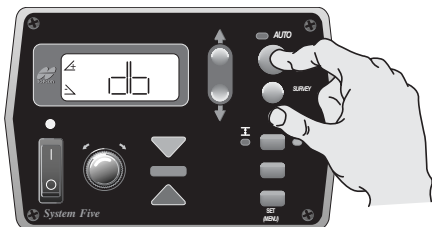

Figure 31. Selecting Slope Deadband
1. From the Performance Menu, press the Auto button to select Slope Deadband (Figure 31).